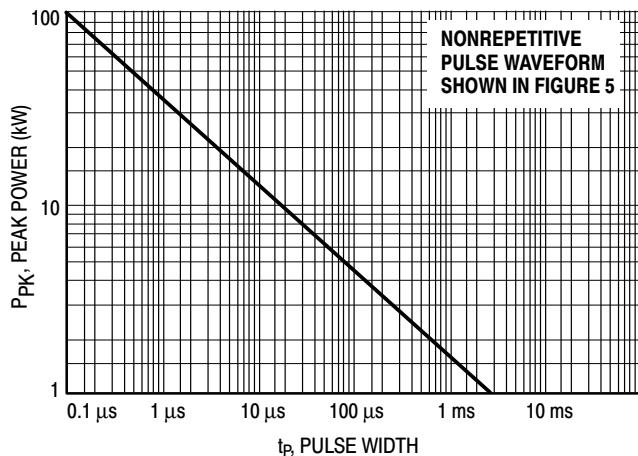
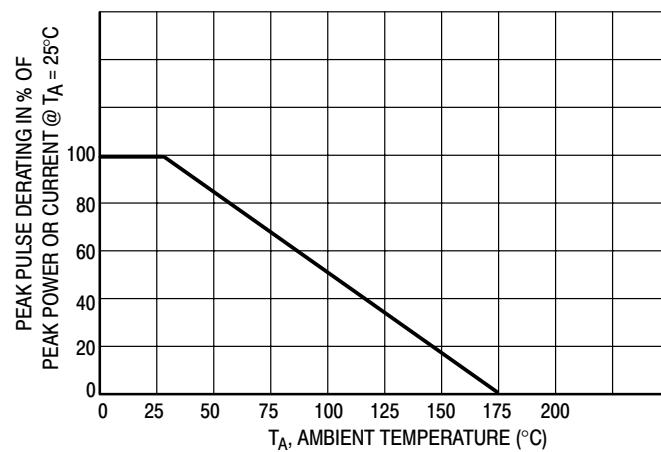
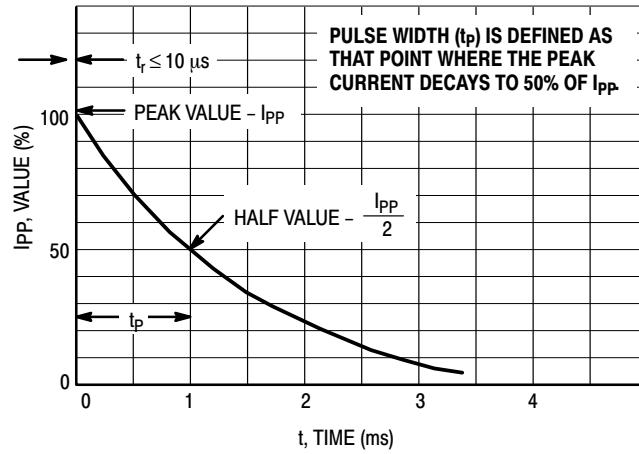
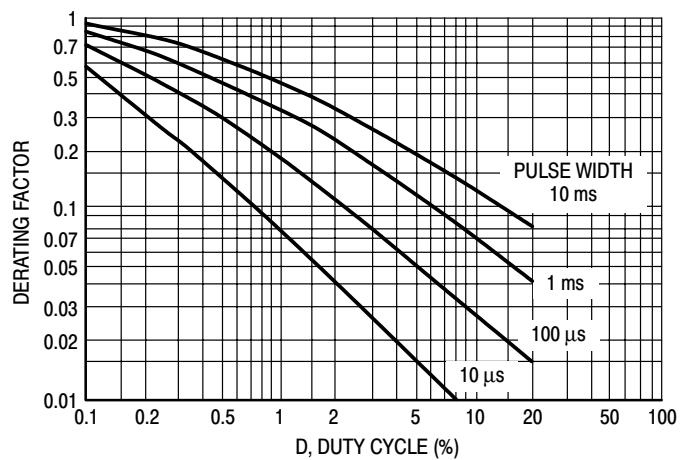

Figure 1. Pulse Rating Curve
Figure 2. Pulse Derating Curve
Figure 4. Pulse Waveform
Figure 6. Typical Derating Factor for Duty Cycle
1. Nonrepetitive current pulse per Figure 4 and derated above $T_A = 25^\circ\text{C}$ per Figure 2.
4. Surge current waveform per Figure 4 and derate per Figures 1 and 2.
The data of Figure 1 applies for non-repetitive conditions and at a lead temperature of 25°C. If the duty cycle increases, the peak power must be reduced as indicated by the curves of Figure 6. Average power must be derated as the lead or ambient temperature rises above 25°C. The average power derating curve normally given on data sheets may be normalized and used for this purpose.
At first glance the derating curves of Figure 6 appear to be in error as the 10 ms pulse has a higher derating factor than the 10 μ s pulse. However, when the derating factor for a given pulse of Figure 6 is multiplied by the peak power value of Figure 1 for the same pulse, the results follow the expected trend.